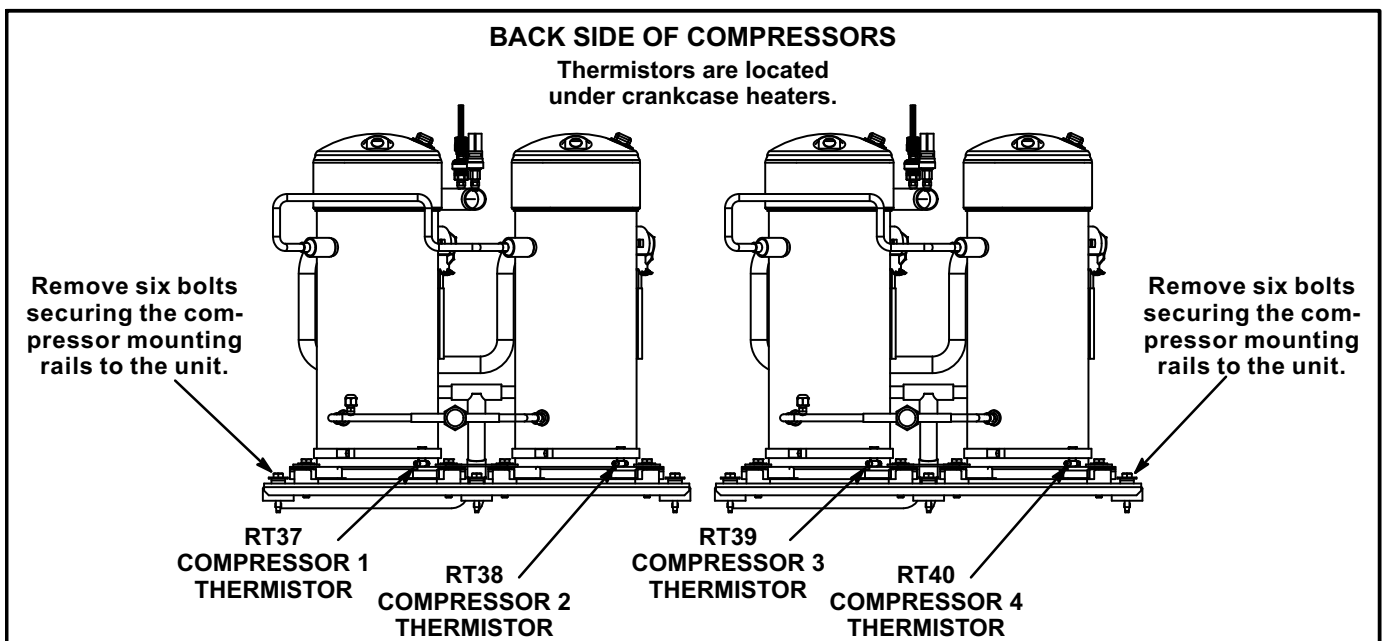

FIGURE 2
- 2- Mark and disconnect wiring to compressors. Thermistors are located behind compressors under crankcase heaters. See figure 2.
- 5- Remove and retain screws securing each crankcase heater ground. Remove and retain six bolts securing the compressor mounting rails to the unit. Remove compressor assembly from unit. See figure 2.
- 1- Remove bolts securing replacement compressor mounting rails to the crate. Remove assembly from crate. See figure 2.
- 3- Align the holes in the replacement compressor assembly mounting rails with the unit mounting holes. Secure the mounting rails to the unit using the six bolts that were removed in step 5 in the previous section. See figure 2.